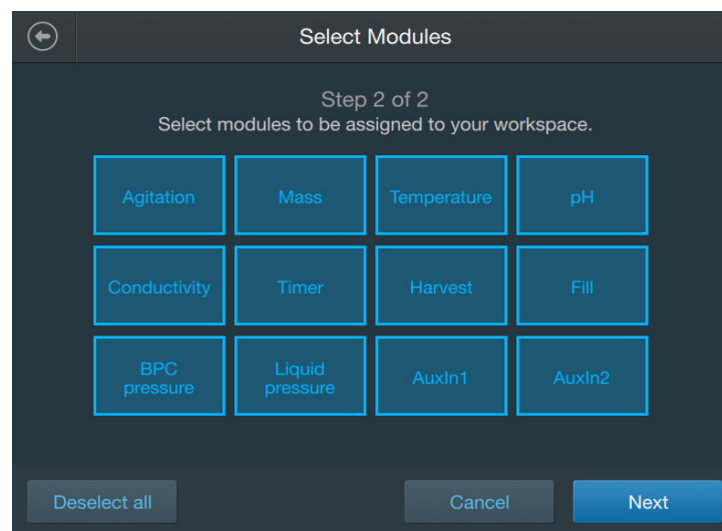

Figure 3.14. Selecting modules.
4. The Select Modules screen that appears allows the user to select any other modules (Figure 3.14). Touch the modules you would like to use to add them to the Home screen. To deselect a module, touch the button again. When you are finished, touch **Next**.